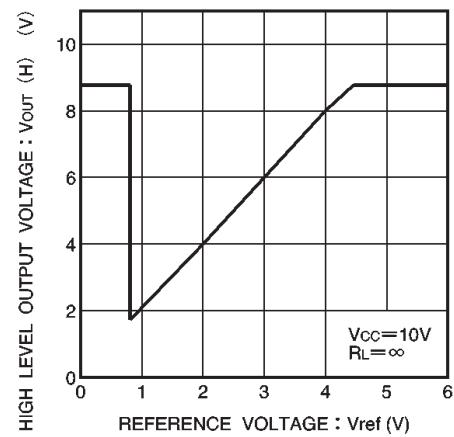

Fig. 6 V_{ref} voltage vs. high-level output voltage
- 4) V_{CC} is the reference voltage for the input voltage of logic input pins. In terms of potential relative to V_{EE} , the HIGH level is $(V_{CC}+5.0)V$ and the LOW level is V_{CC} . Fig. 6 shows each pin's potential level.